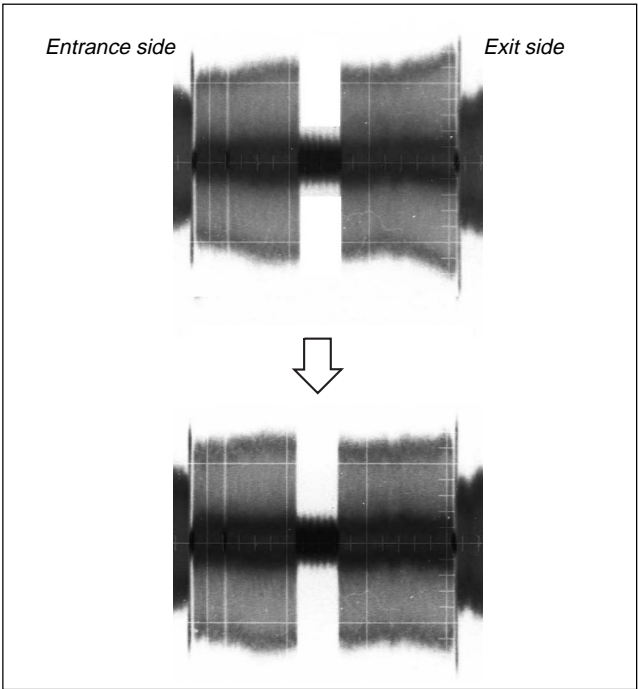

Fig. 4-9
- 3) Adjust the TG5 so that the RF envelope has the larger amplitude at the exit side first, then adjust TG5 guide for flat amplitude. (Refer to Fig. 4-9.)